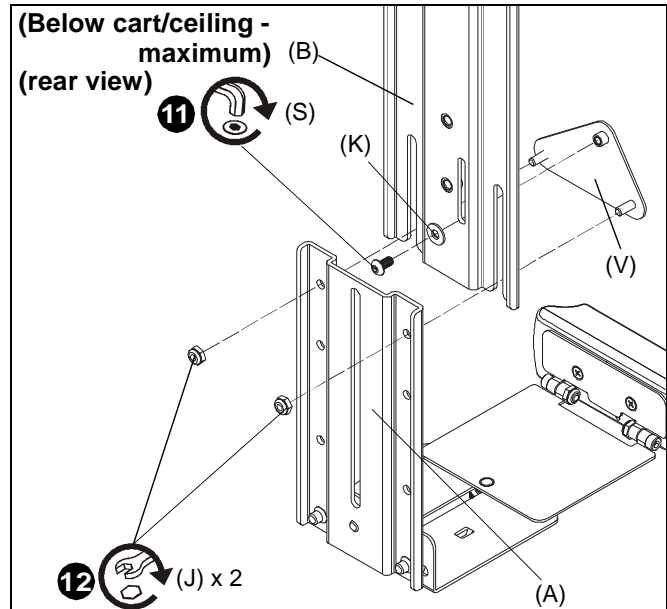

Figure 13
11. (For **maximum extension**) Use #10-32 x 3/8" button head cap screw (S) and small washer (K) to secure adapter plate (V) to main bracket (B). (See Figure 13)
12. (For **maximum extension**) Use two #10-24 lock nuts (J) to secure upright bracket (A) to main bracket (B) and adapter plate (V). (See Figure 13)